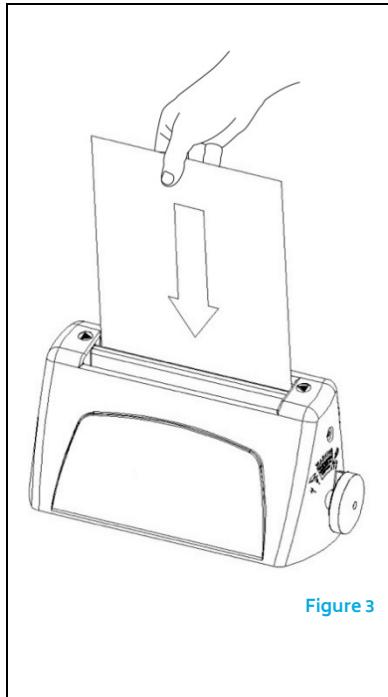

Figure 3
1. Hold up to four sheets of paper above the rear slot, identified by the two arrows on either side (Figure 3).